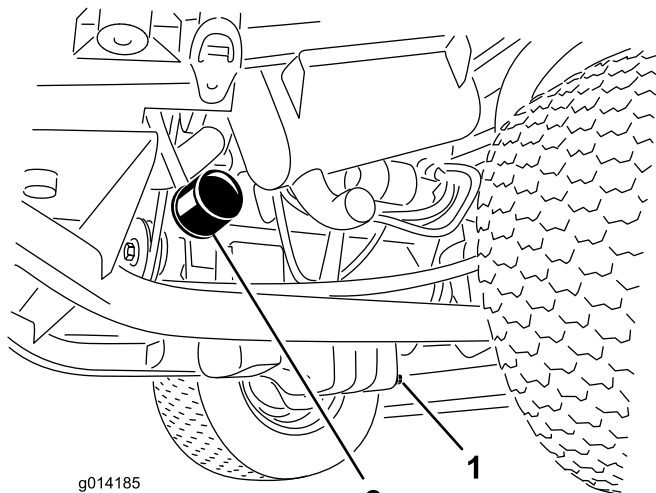

Figure 34
- Remove the drain plug (Figure 34) and let the oil flow into a drain pan.
- Remove the oil filter (Figure 34).